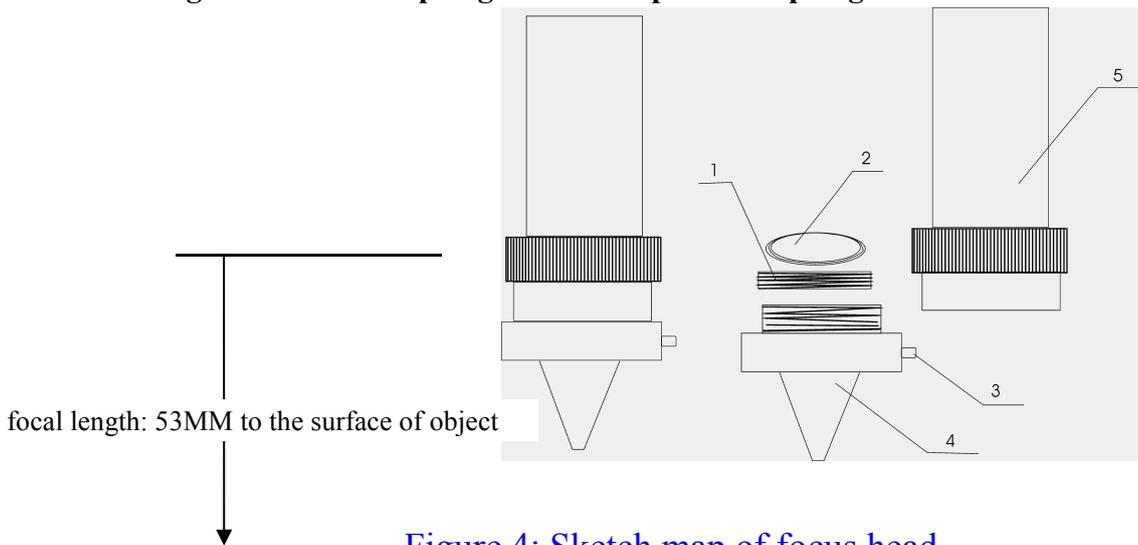

Figure 4: Sketch map of focus head
- 6) Put work pieces in position, and fix up the focal length (the length see Figure 4).